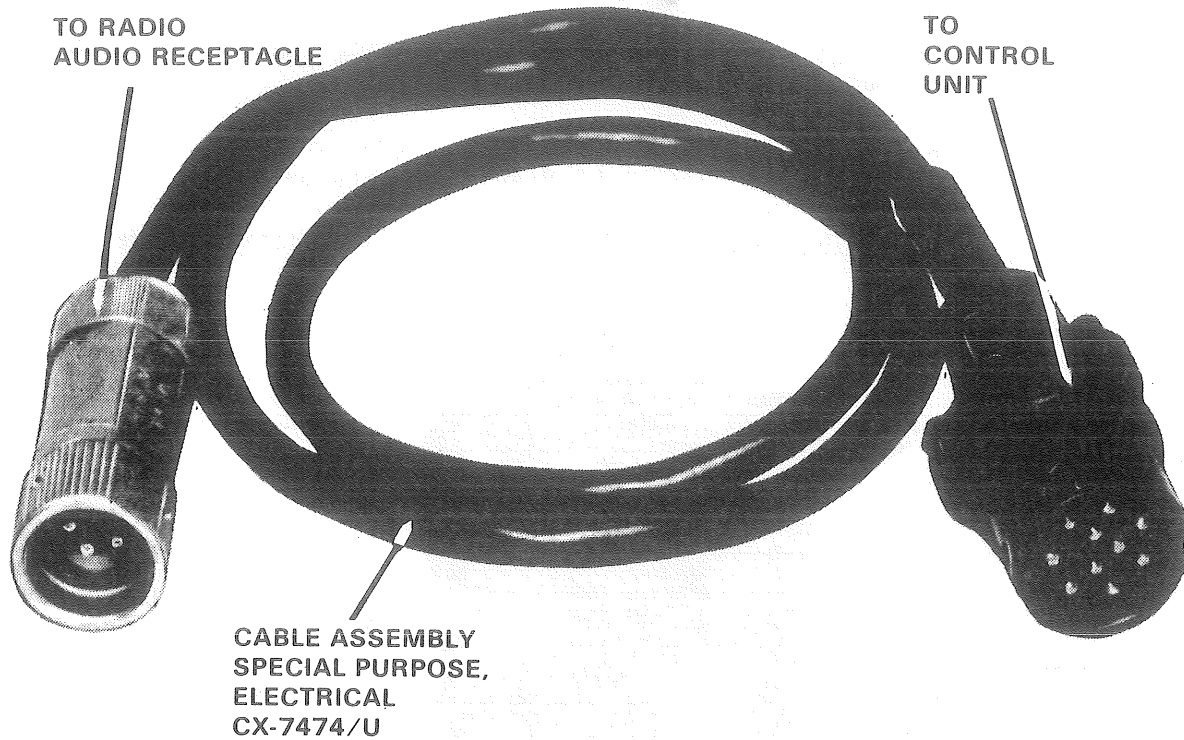

Figure 2. Cable Assembly, Special Purpose, Electrical CX-7474/U.
- b. Insure Cable Assembly, Special Purpose, Electrical CX-7474/U is present. (Refer to fig 2, and TM 11-5820-401-12, para 6-9a(1) and b(2).)